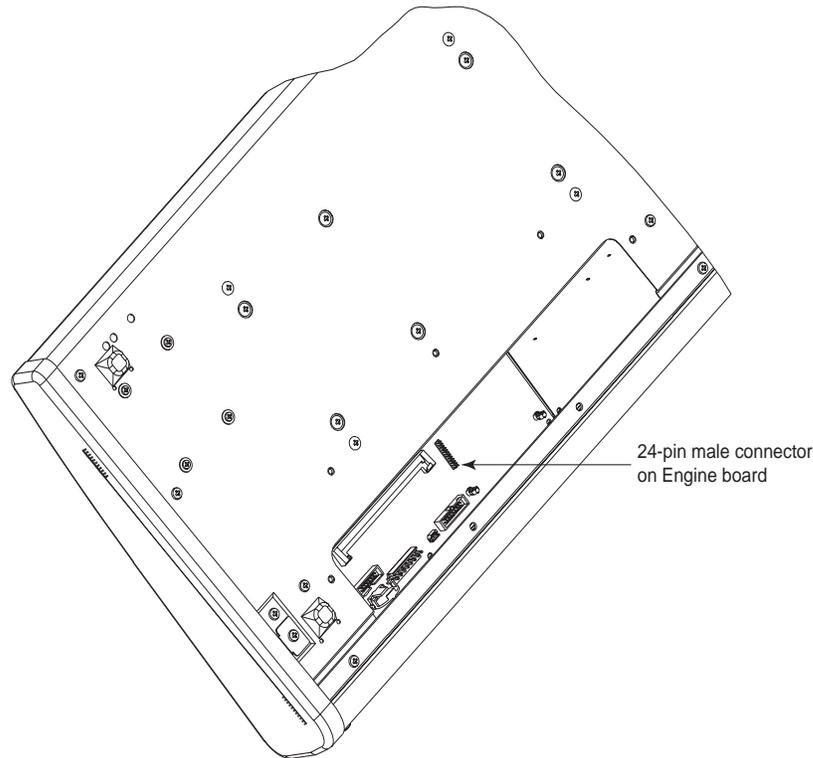

Figure 2 PC2 Engine board
1. Locate the Engine board (see Figure 2), and identify the four white plastic standoffs (vertical pins) that will hold the PCX-1 board in place. Also notice the 24-pin male connector on the Engine board. This will plug into the connector on the PCX-1 board.